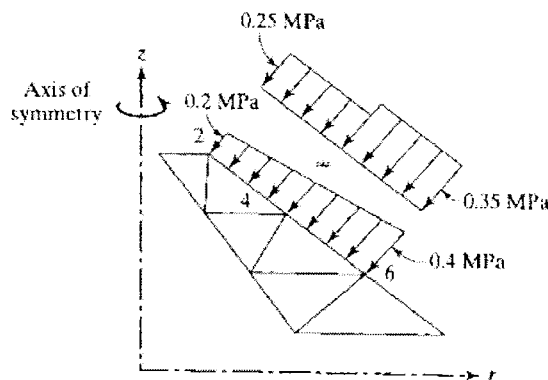

Figure 4
Q.3(B) i. An axi-symmetric body with a linearly distributed load on the conical surface is shown in Figure 4. Determine the equivalent point loads at node 2 (60, 40), 4 (40, 55) and 6 (20, 70). 6M